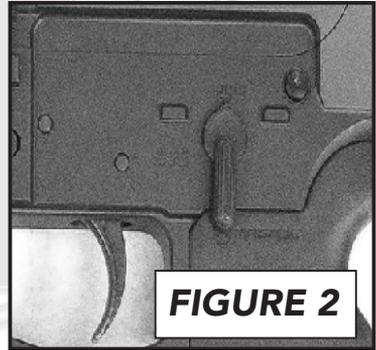

FIGURE 2
6. When you are ready to fire, move the safety lever to the "FIRE" position. (**Figure 2**)